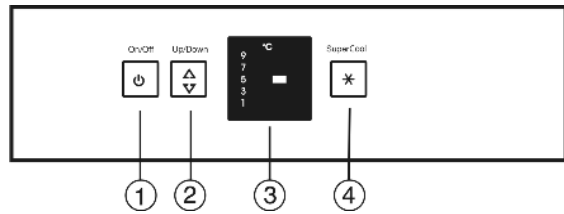

Fig. 2
- ▶ Press On/Off button *Fig. 2 (1)*.
- ▶ To access temperature adjustment: press the setting button *Fig. 2 (2)* once.
- ▶ Press the setting button *Fig. 2 (2)* the number of times needed until the required temperature shines in the LED display.
- ▶ Briefly press SuperCool button *Fig. 2 (4)*.
- ▷ The SuperCool button *Fig. 2 (4)* lights up.